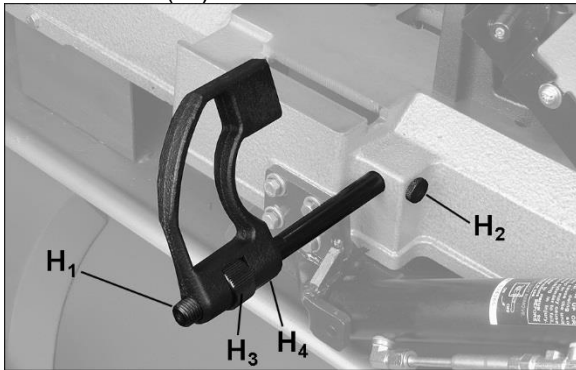

Figure 6-6: installing work stop (**712D only**)
5. **712D only:** Install work stop rod (H₁, Figure 6-6) into hole and tighten knurled nut (H₂). Install work stop onto rod threads by rotating collar (H₃). Secure position of work stop by tightening set screw (H₄) onto rod flat.